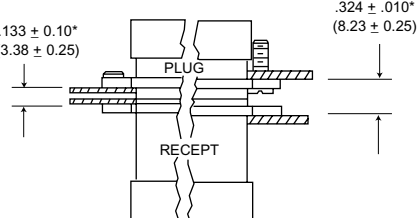

Figure 3
- 5/6. With plug assembly front mounted and receptacle assembly rear mounted, use hardware from Figures 5 and 6. If float mounting is desired, use Figure 3 or 4 for the float mounted connector.